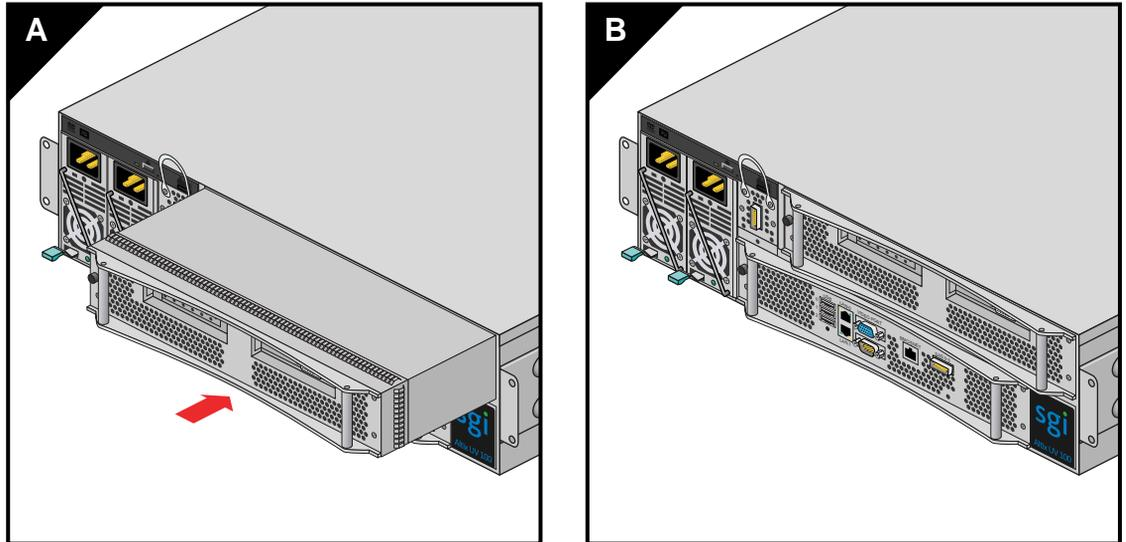

Figure 5-7 Reinstall PCIe Riser Blade in the UV 100
11. Slide the blade back into the IRU and restart the system or blade, see Figure 5-7 for an example.